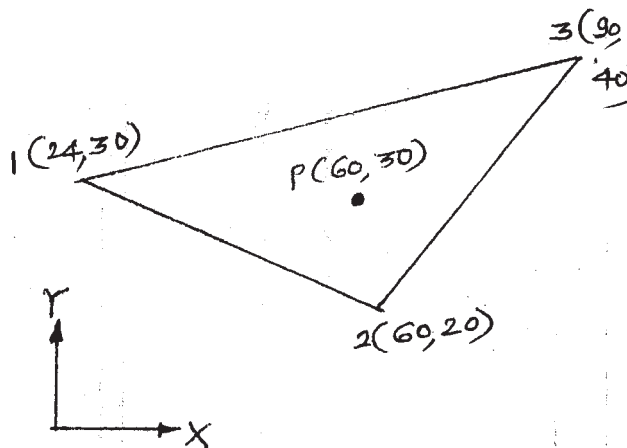

Fig. 6
b) The stresses at node points 1, 2 and 3 are 90, 120 and 160 MPa respectively. Determine the stress at point P for the coordinates as shown in the fig. 6. [8]